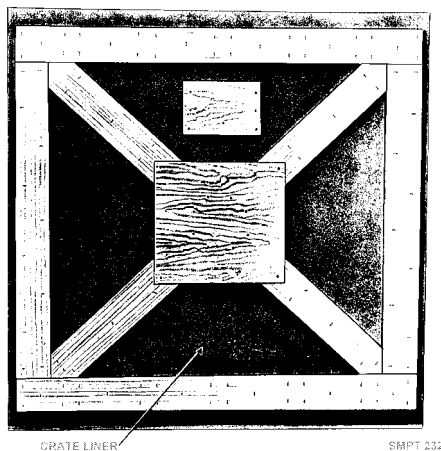

Figure 4-8. Weatherproofing #1.
- X Identify the method of weatherproofing in figure 4-8.